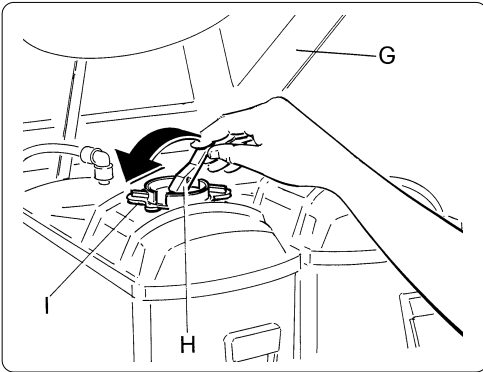

Fig. 6
- Lift the cover (G) by pushing it upwards from the front until it reaches the stopping position.
- Lift the lever (H) as shown in the figure to vent the airtight tank and to allow the cap (I) to be removed (see fig. 6).